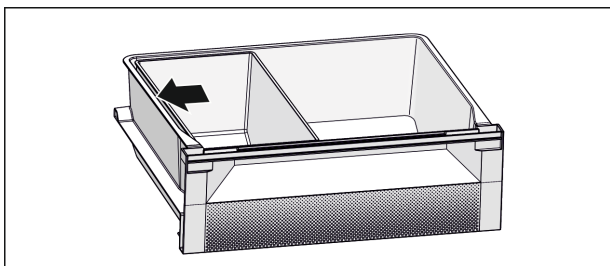

Fig. 6
- ▶ For an optimum cooling function: Position Fish & Seafood tray according to illustration (see Fig. 6) .